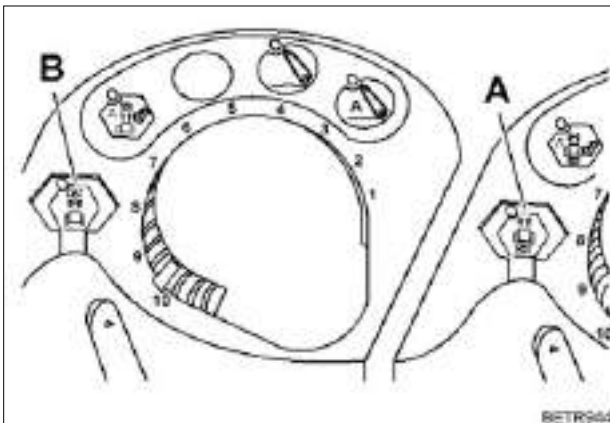

Fig.98
For implements that require high initial power, disengage the rear PTO with pushbutton (A) (see OPERATION Fig. 98).